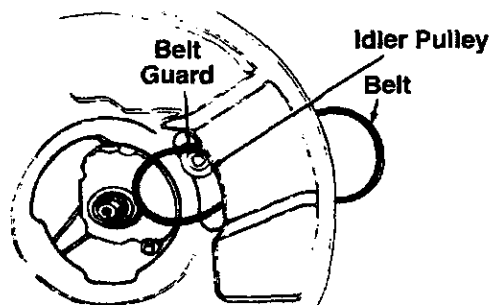

FIGURE 17.
- Remove the belt from between the idler pulley and the belt guard on the idler pulley bracket. See figure 17.
- Push the idler pulley up out of the way as shown in figure 17.